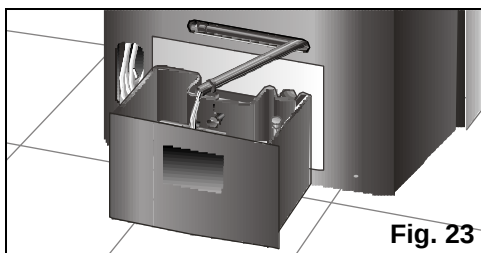

Fig. 23
- ❑ Before tilting it, empty the condensed water from the internal tank by extracting the water drainage pipe from its housing and removing the plug, **Fig. 23**. Place a receptacle (or the appliance's removable tank) at the end of the water drainage pipe to collect the condensed water or lead the pipe to the nearest drain. Do not forget to replace the plug and reinsert the pipe in its housing when the tank is empty.